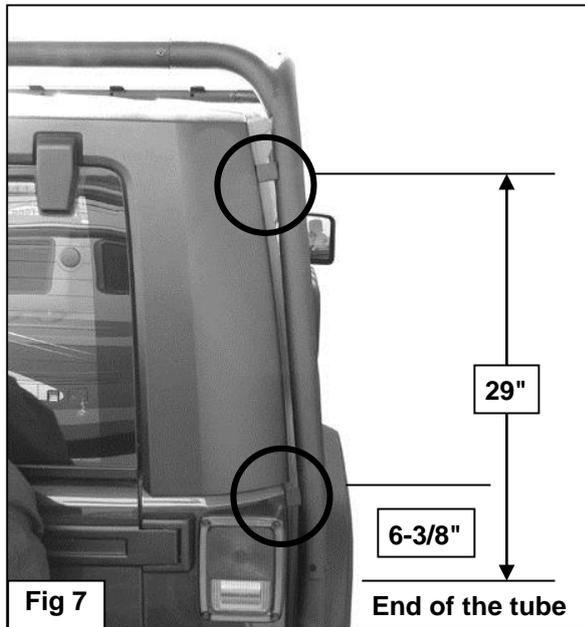

Fig 7
7. To better support the Roof Rack when loaded, (2) Rubber Bumpers are included in the installation kit. The Rubber Bumpers can be installed at a point 29" up from the end of the Rear Leg for vehicles with hard tops or at 6-3/8" for vehicles with hard or soft tops, (**Figure 7**). Once the location is determined and marked, select the side of the Rear Leg (**C, D**) facing the vehicle and mark the location. Remove the Rear Leg. Place the Rear Leg on a stable work surface with the side to be drilled facing up. Drill an 1/8" hole into the Rear Leg. Drill only through the side requiring the Rubber Bumper. Do not drill through both sides of the tube. Secure the Rubber Bumper to the Rear Leg with (1) #5 x 30mm Screw and (1) 5mm Flat Washer. Snug but do not over tighten or the Rubber Bumper will be deformed.